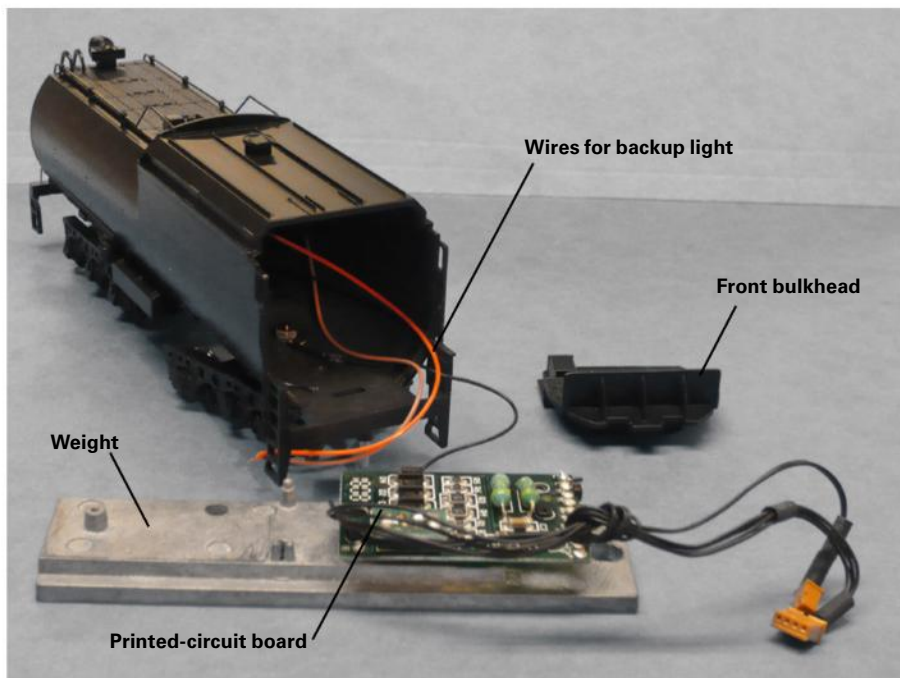

Fig. 1 Out with the old. Peter removed the weight and printed-circuit board from the tender. He saved the wires for the trucks and backup light.
First, I removed the tender's front bulkhead. Inside is a flat metal weight, a printed-circuit (PC) board, wiring, and a recess for a small speaker. See **fig. 1**.